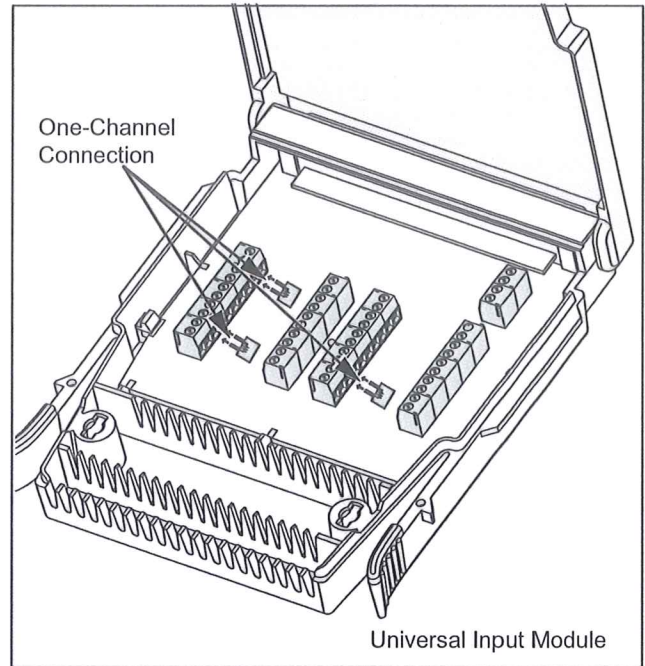

Figure 2. Position of the 2638A-101
Refer to Figures 2 and 3 for the following instructions.
3. Loosen the screws for the selected measurement channel(s) and place the Shunt Resistor(s) in position with the white side up (Figure 2). You can connect up to 10 measurement channels with each Shunt Resistor.